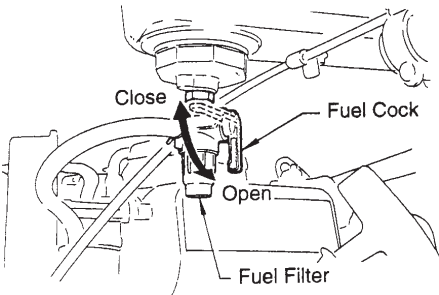

Figure 5. Fuel Cock
1. Open the **fuel shut-off valve** by moving the **fuel cock** lever to the **open** position (Figure 5).
2. Close the **fuel shut-off valve** (Figure 5) by moving the fuel cock lever to the **CLOSED** position.